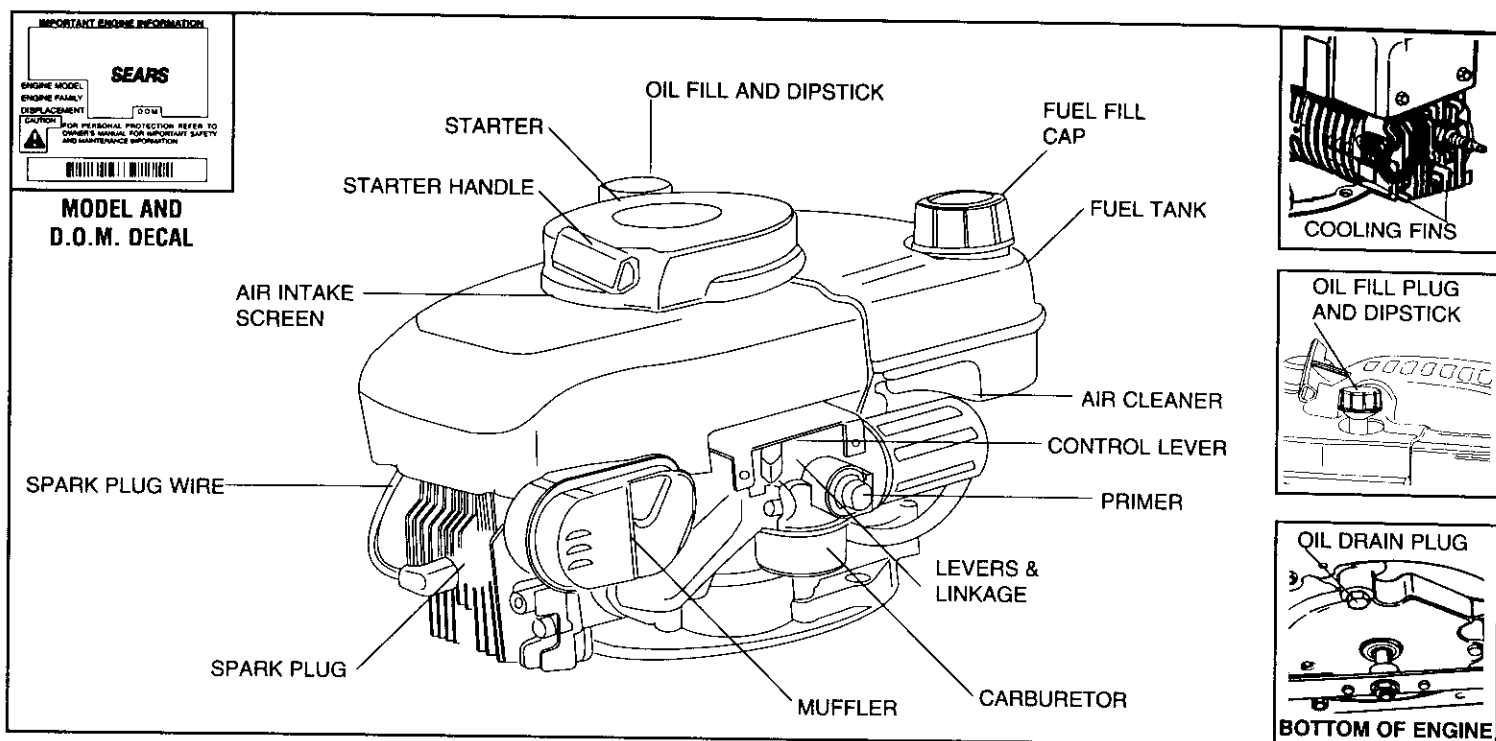

Figure 1
- Clean area around oil fill plug (see Figure 1).
- Be sure spark plug wire is attached to spark plug (see Figure 1).
① Move engine control (see Figure 1) to HI Position.
C. Remove oil drain plug and oil fill plug to drain oil (see Figure 1).